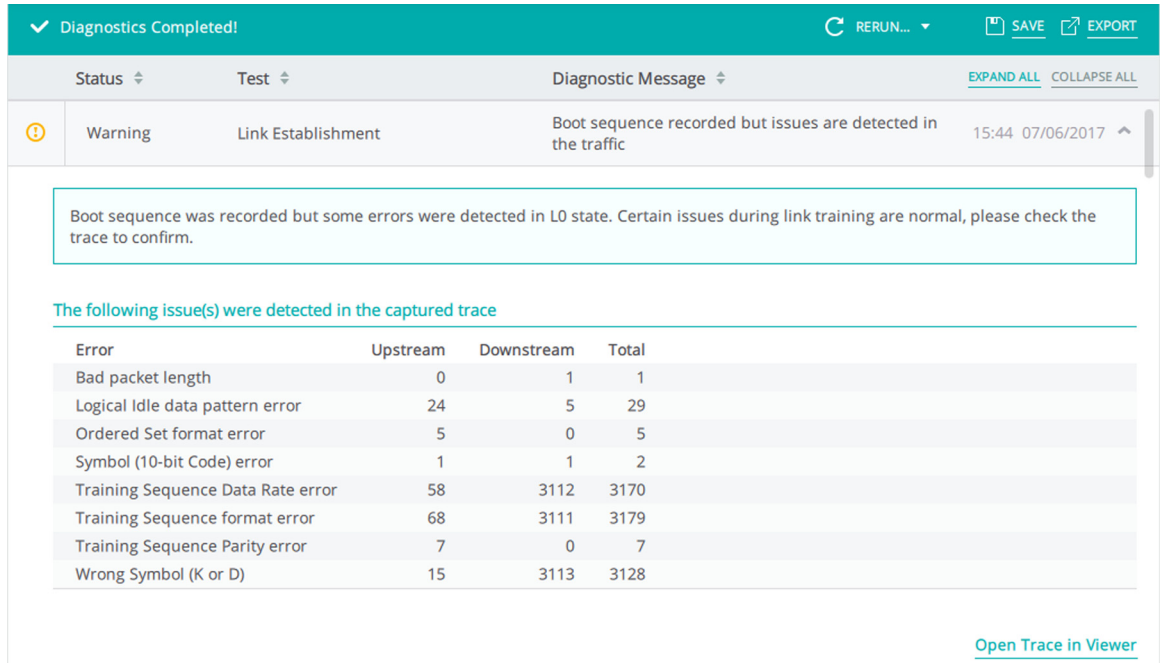

Figure 5.4: Link Establishment: Warning Message -> Boot Sequence
- ❑ Link Establishment: Warning (1)
- Boot sequence was recorded but issues are detected in the traffic (for more details see Figure 5.4).